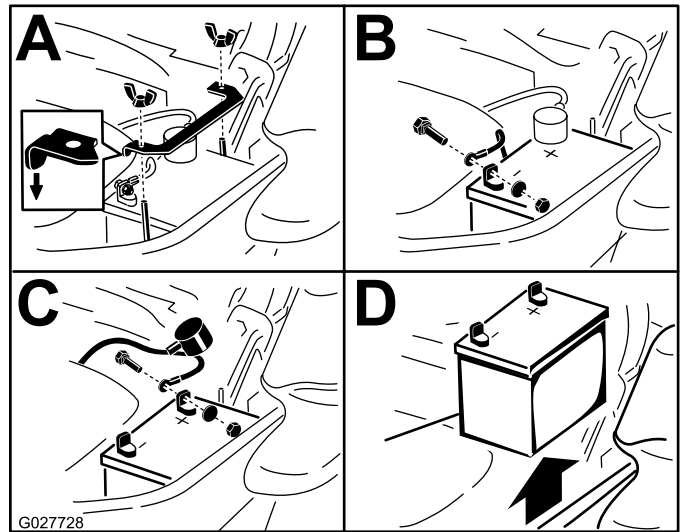

Figure 60
3. Remove the battery as shown in Figure 60.
**Note:** Position the battery in the tray with the terminal posts opposite from the hydraulic tank (Figure 60).